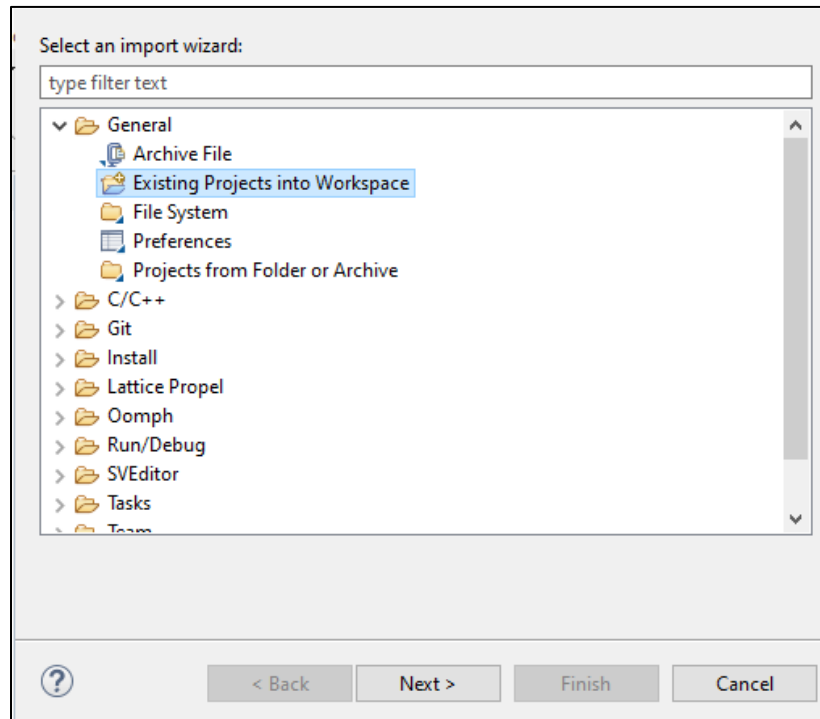

Figure 3.18 Select Import Wizard
2. Select **Existing Projects into Workspace** under the **General** group, as shown in Figure 3.18.